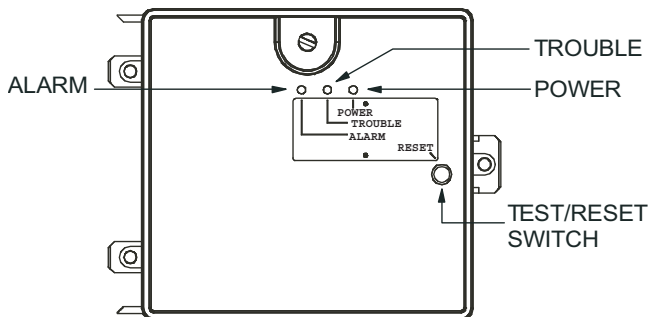

Fig. 59 — Controller Assembly
- The contacts on the controller's supervisory relay switch positions. (See Fig. 59.)